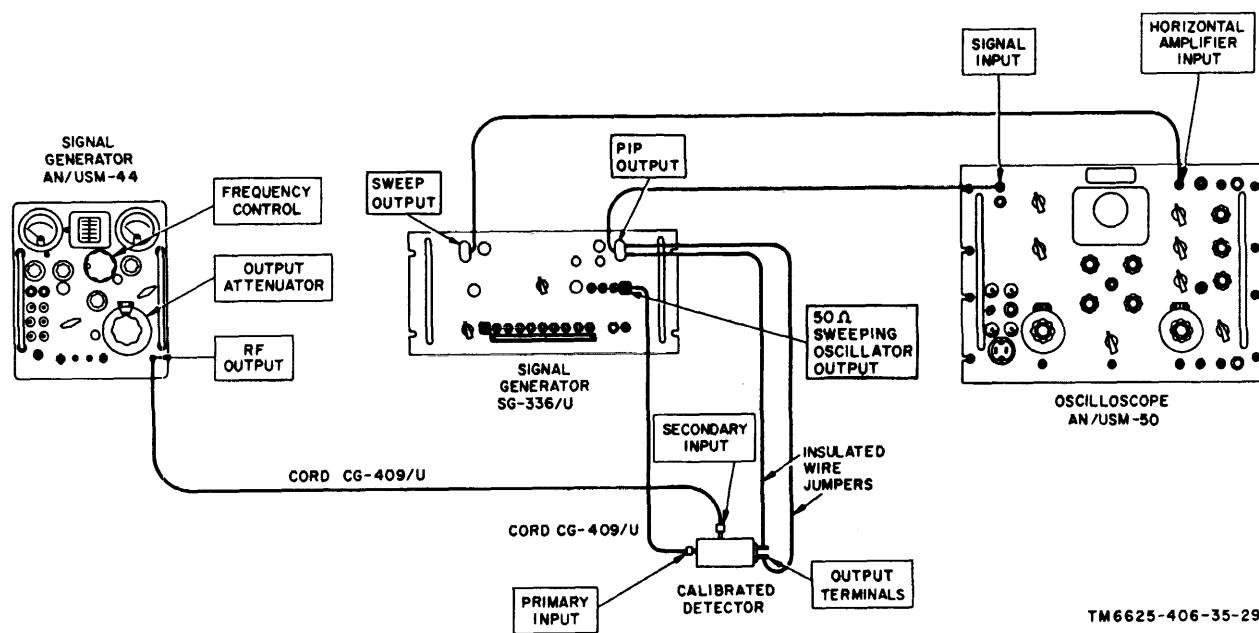

Figure 24. Marker circuit test connections.
- (1) Oscilloscope AN/USM-50.
- (2) Signal Generator AN/USM-44.
- (3) Calibrated detector.
*b. Test Connections and Conditions.* Connect the equipment as shown in figure 24.